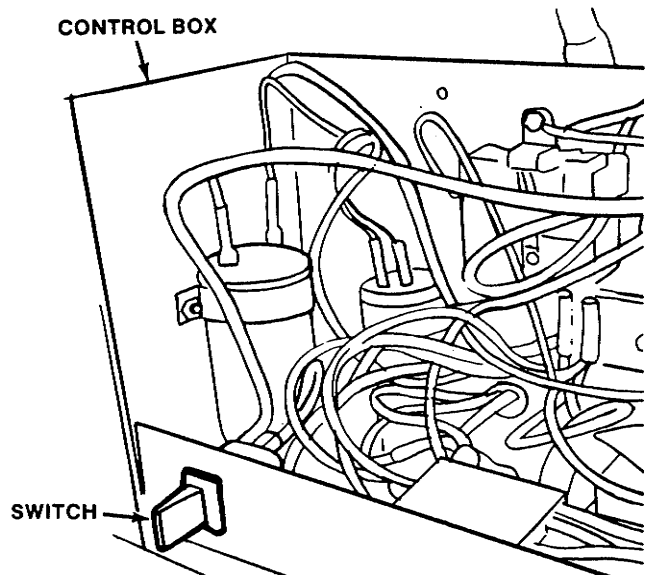

Figure 56. Clean-Off-On Switch Replacement
4. Using a standard screwdriver, remove two screws, lockwashers and flat washers securing the switch to the control box (Fig. 56).